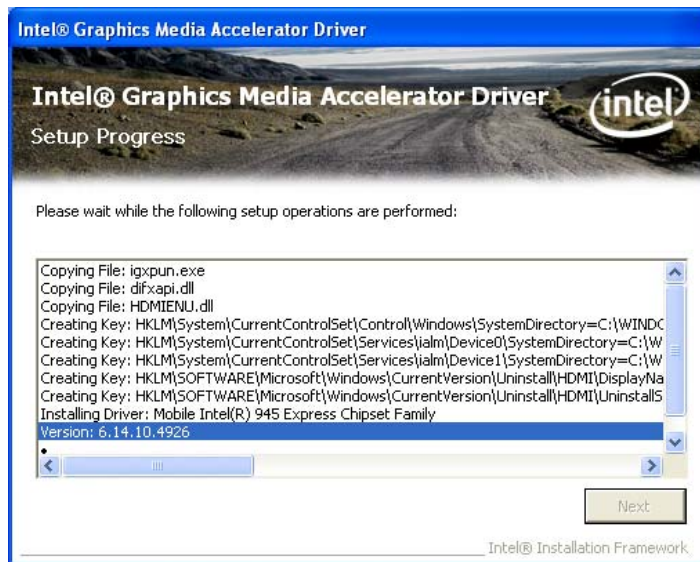

Figure 6-13: VGA Driver Setup Operations
Step 12: Setup Operations are performed as shown in **Figure 6-13**.